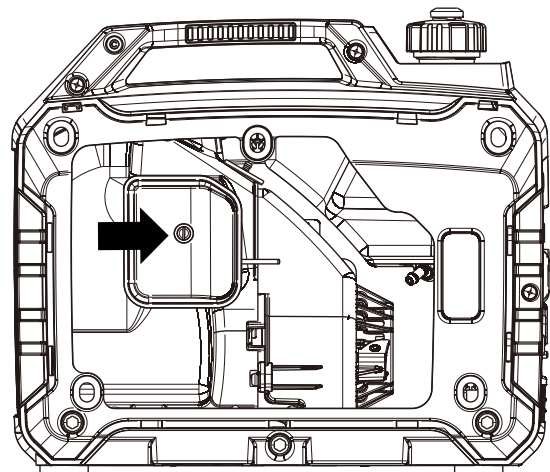

Figure 14: Unscrew air cleaner cover
3. Unscrew the air cleaner cover and tip the cover down (see Figure 14).